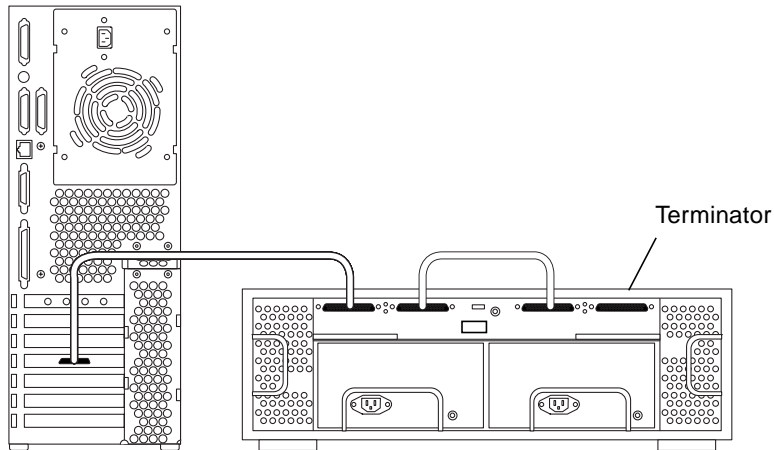

FIGURE 1-14 Netra st D1000 System in a Single-Box Configuration
- Single-box configuration—A single box of disks connected to a single host (FIGURE 1-14)